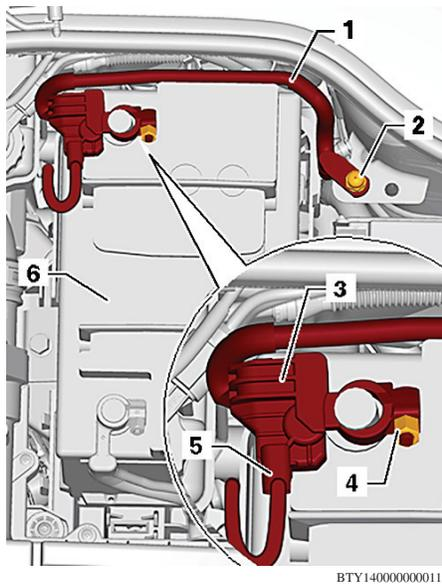

Fig. 5 Battery ground cable installation
4. **On all models,** disconnect connector (5) on battery monitoring control module (3), **Fig. 5.**
5. Connect ground cable (4) to ground terminal of battery (6) and torque nut
- to 53 inch lbs., **Fig. 5.**